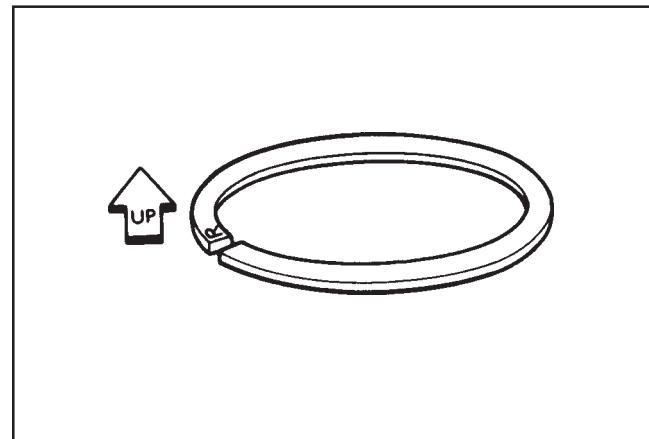

Figure 10-17. Middle Compression Ring.
2. Middle Compression Ring: Locate and identify the compression ring with the R marking. Using a piston ring expander, install this ring in the middle groove with the R up towards the top of the piston. See Figure 10-17.